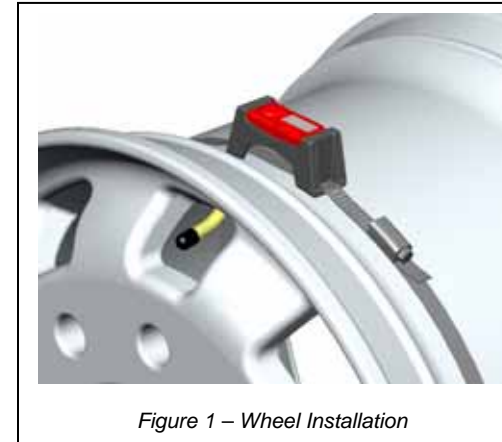

Figure 1 – Wheel Installation
3. Position strap/Transmitter assembly around wheel at the lowest point of the drop-center. See Figures 1 and 2.